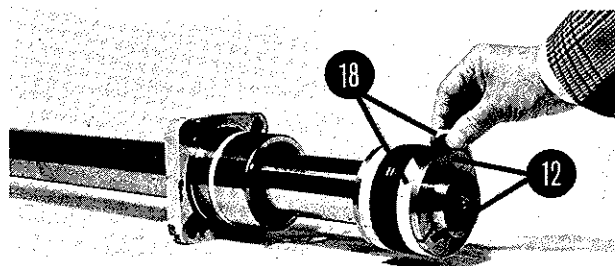

Fig. 3
- (1) Secure the eye of the piston rod and support the weight of the rod.
- (2) Remove the plastic split plastic collar (18) from the split rings (12) (fig. 3).
- (3) Remove split rings (12) and the washer (13).
- (4) Remove the piston seal pack (15) and discard. Remove the spacer (14).